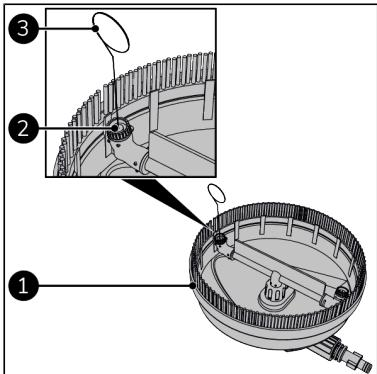

Figure 44.
3. Pull the floor cleaner (Figure 44, pos. 1) from the extension lance (Figure 26, pos. 2).
4. Clean both nozzles (Figure 44, pos. 2) with the cleaning pin (Figure 44, pos. 3).